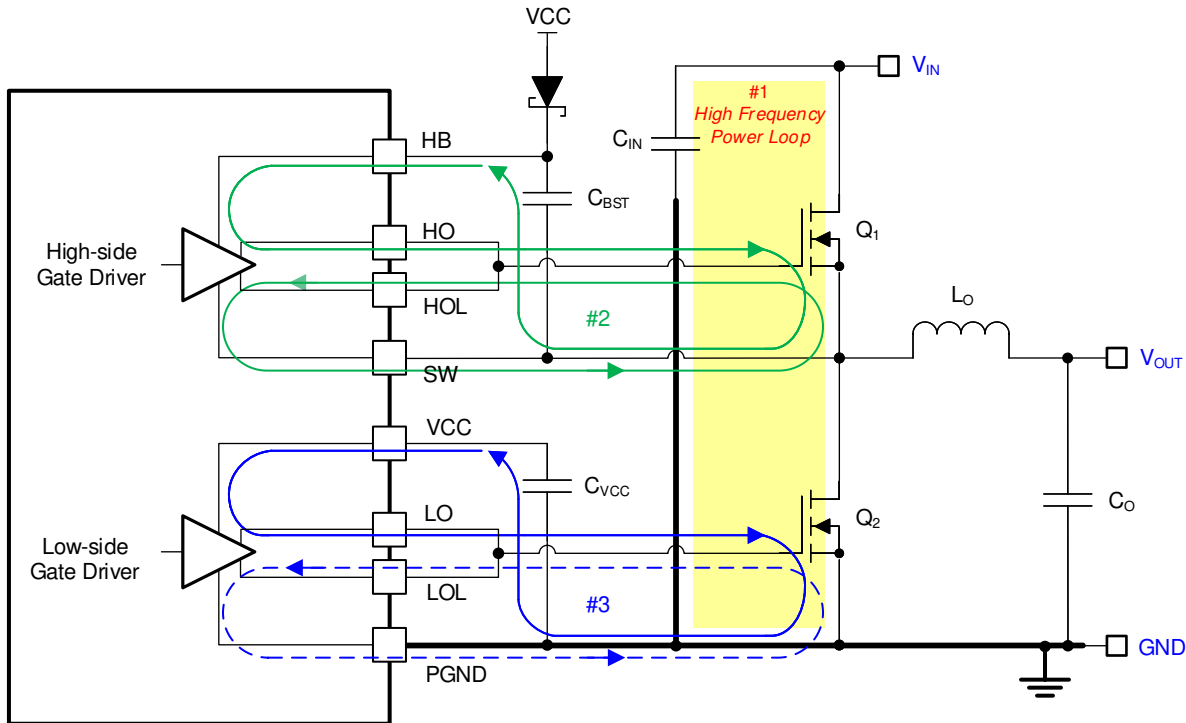

Figure 11-1. DC/DC Regulator Ground System With Power Stage and Gate Drive Circuit Switching Loops
Proper PCB design and layout is important in a high-current, fast-switching circuits (with high current and voltage slew rates) to achieve a robust and reliable design. As expected, certain issues must be considered before designing a PCB layout using the LM5143-Q1. The high-frequency power loop of a buck regulator power stage is denoted by loop 1 in the shaded area of Figure 11-1. The topological architecture of a buck regulator means that particularly high di/dt current flows in the components of loop 1, and it becomes mandatory to reduce the parasitic inductance of this loop by minimizing its effective loop area. Also important are the gate drive loops of the low-side and high-side MOSFETs, denoted by 2 and 3, respectively, in Figure 11-1.
- Loop 1: The most important loop area to minimize is the path from the input capacitor or capacitors through the high- and low-side MOSFETs, and back to the capacitor or capacitors through the ground connection. Connect the input capacitor or capacitors negative terminal close to the source of the low-side MOSFET (at ground). Similarly, connect the input capacitor or capacitors positive terminal close to the drain of the high-side MOSFET (at V_{IN}). Refer to loop 1 of Figure 11-1.
5. The SW pin connects to the switch node of the power conversion stage and acts as the return path for the high-side gate driver. The parasitic inductance inherent to loop 1 in Figure 11-1 and the output capacitance (C_{OSS}) of both power MOSFETs form a resonant circuit that induces high frequency (greater than 50 MHz) ringing at the SW node. The voltage peak of this ringing, if not controlled, can be significantly higher than the input voltage. Make sure that the peak ringing amplitude does not exceed the absolute maximum rating limit for the SW pin. In many cases, a series resistor and capacitor snubber network connected from the SW node to GND damps the ringing and decreases the peak amplitude. Provide provisions for snubber network components in the PCB layout. If testing reveals that the ringing amplitude at the SW pin is excessive, then include snubber components as needed.
- Loop 2: high-side MOSFET, Q_1 . During the high-side MOSFET turnon, high current flows from the bootstrap (boot) capacitor through the gate driver and high-side MOSFET, and back to the negative terminal of the boot capacitor through the SW connection. Conversely, to turn off the high-side MOSFET, high current flows from the gate of the high-side MOSFET through the gate driver and SW, and back to the source of the high-side MOSFET through the SW trace. Refer to loop 2 of Figure 11-1.
- Loop 3: low-side MOSFET, Q_2 . During the low-side MOSFET turnon, high current flows from the VCC decoupling capacitor through the gate driver and low-side MOSFET, and back to the negative terminal of the capacitor through ground. Conversely, to turn off the low-side MOSFET, high current flows from the gate of the low-side MOSFET through the gate driver and GND, and back to the source of the low-side MOSFET through ground. Refer to loop 3 of Figure 11-1.